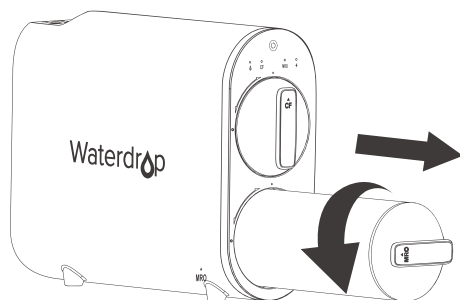

Figure 13
1. Twist the filter that needs to be replaced counterclockwise (Figure 13).